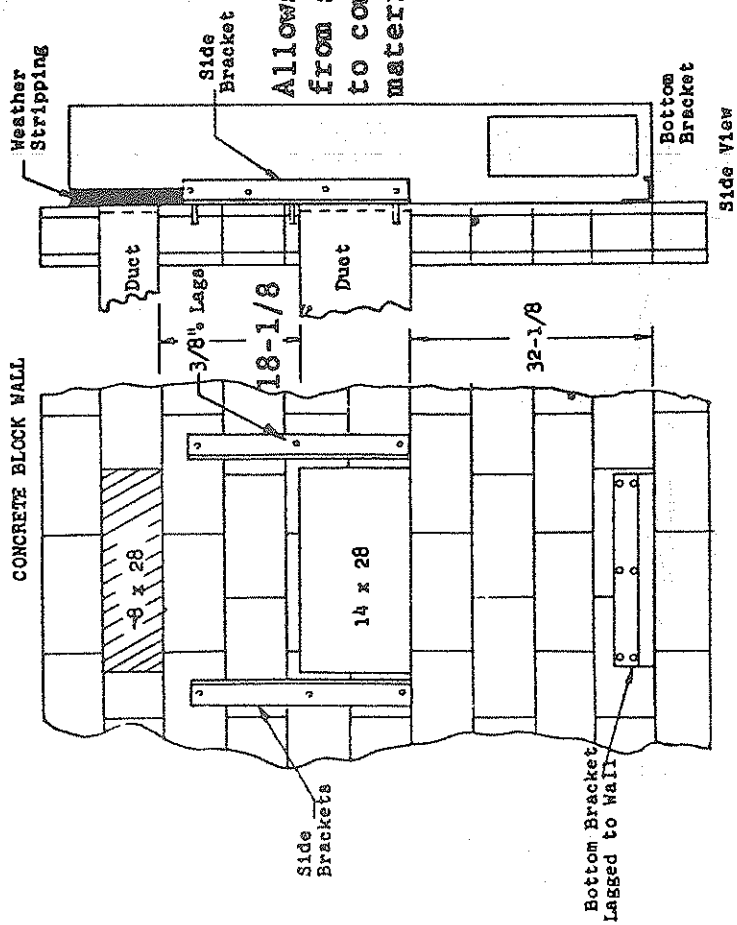

Fig. 1
1. Two holes, the size of the supply and return air openings must be cut through the wall as shown in Fig. 1 and 2 on page 5.
These units are secured by wall mounting brackets which secure the unit to the outside wall surface at both sides and at the bottom (Fig. 1).